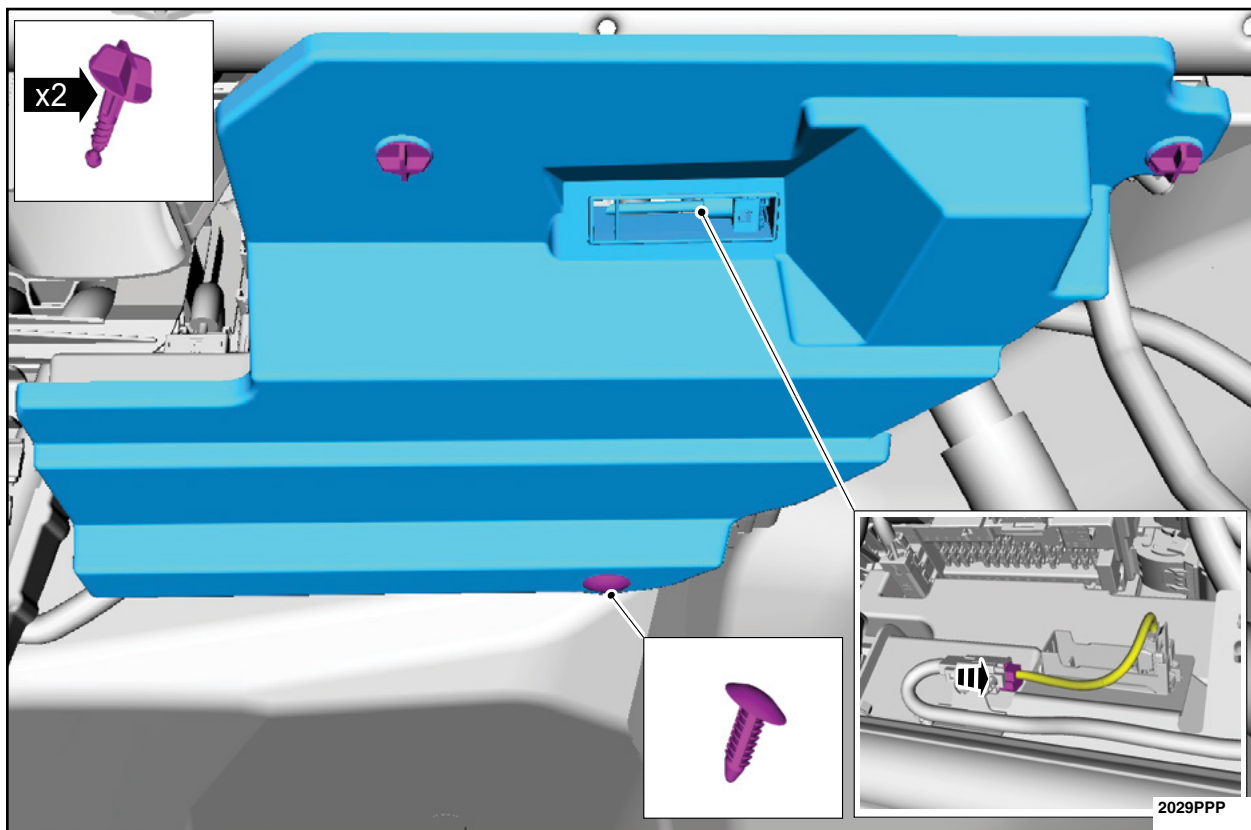

FIGURE 1
4. Remove the lower Left Hand (LH) side instrument panel insulator. See Figure 1.